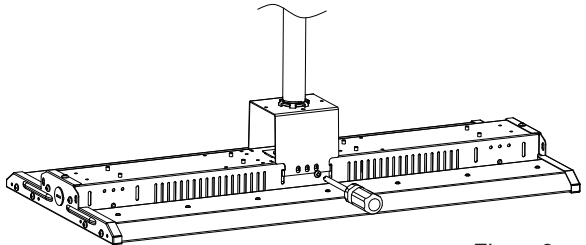

Figure3
Step 2: Lock fixture on the bracket (figure 3)